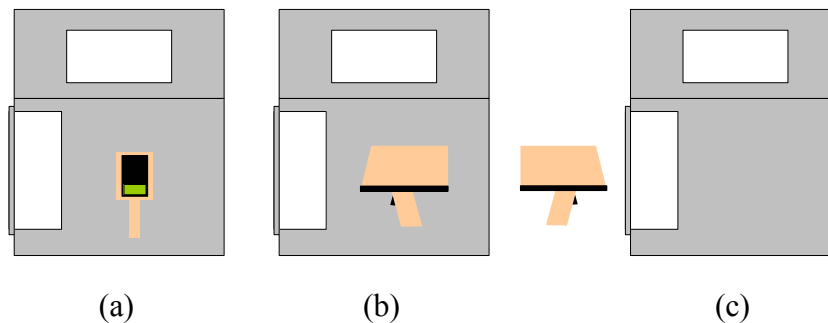

Figure 2. Measuring Heat Flow
3. Insert the OS652 from the smaller window and aim the meter on to any inside wall other than the jig (Figure 2(a)). Press the trigger to the second position (trigger positions are described in the OS652 user manual) and wait for 3 seconds. While holding the trigger, aim the OS652 to the jig. Record the reading. A negative (-) reading appears if the outside temperature is less than the inside temperature. This is the Net Heat Flow through the insulation in British Thermal Units per square foot per hour or Btu/(sq.ft.hr).
4. To obtain the second reading, aim the OS652 to the insulation from inside (Figure 2(b)) and press the trigger halfway position. Record the reading.
5. Now move to the outside of the trainer, exactly opposite to the first location (Figure 2(c)). Record the reading in Table 1.